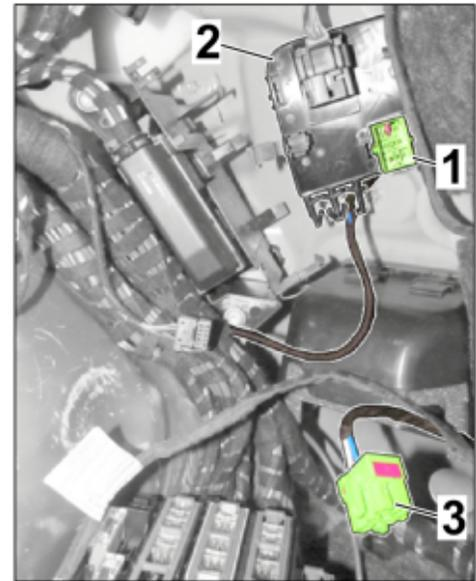

Figure 3
2.1.1 Disconnect pin connector socket, green (towbar system preparation) from the holder from the rear (⇒ *Figure 3*).